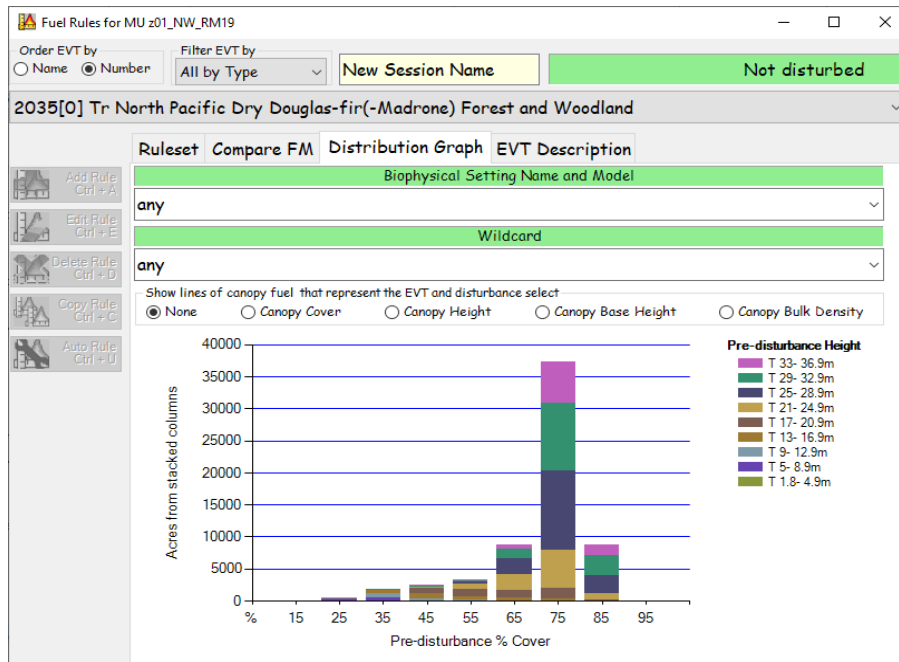

Figure 6-17. Select **Distribution Graph** page tab.
- Use the **Distribution Graph** tab to view the height of the vegetation by cover and the number of acres present in the selected FVT within the defined MU (Figure 6-17). For more information see 7.5 Fuel rules.